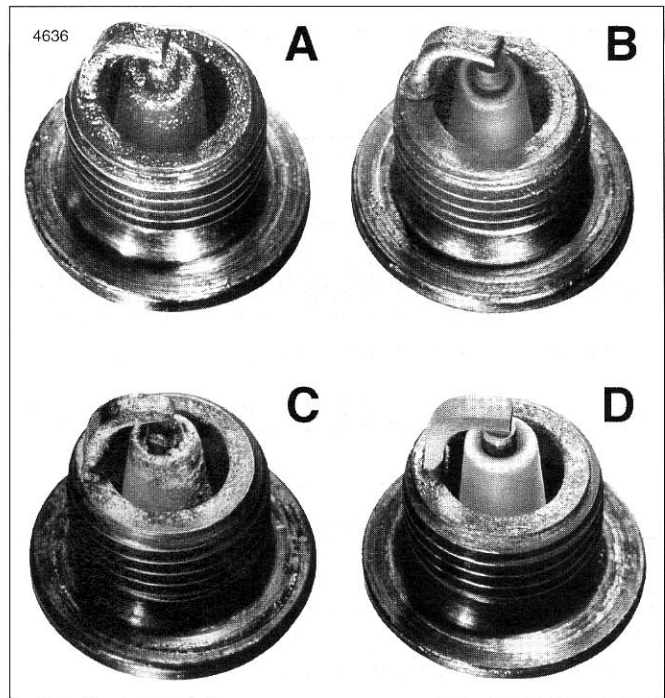

Figure 1-51. Typical Spark Plug Deposits
8. See Figure 1-51. Compare your observations of the plug deposits with the descriptions provided.